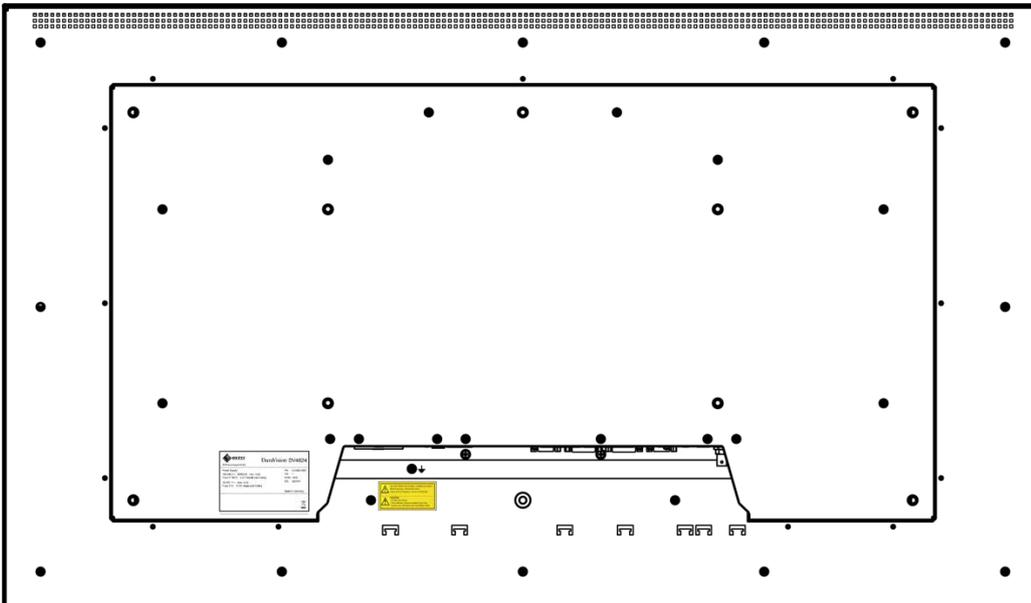

Figure 1: Product Labeling
1. Location of labels *Figure 1: Product Labeling* on page 11.